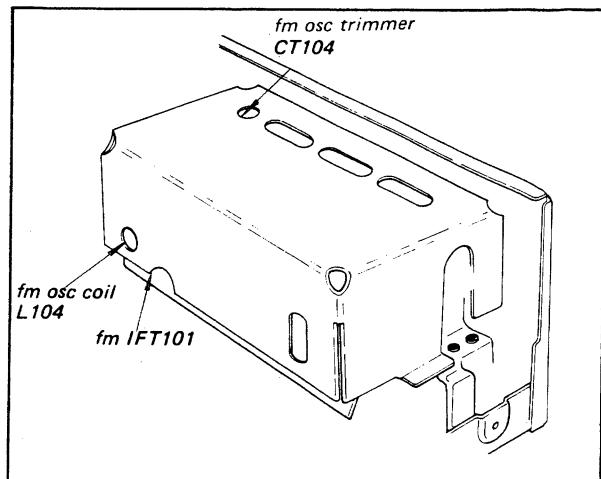

Fig. 3-3. Adjustment parts location
3. Turn the core of fm i-f transformer IFT101 (See Fig. 3-3) and the bottom core (primary side) of discriminator transformer T201 (See Fig. 3-10) to obtain maximum output with the alignment tool.
2. Check the dial scale for a calibration accuracy of ± 100 kHz from the carrier frequency of the station. If the dial-accuracy deviation exceeds this limit, adjust the local-oscillator coil L104 (See Fig. 3-3) slightly until optimum dial calibration is obtained.
3. Tune the receiver to the highest-frequency station in your locality. If the dial-calibration error is excessive, adjust local-oscillator trimmer CT104 (See Fig. 3-3) to obtain maximum calibration accuracy.